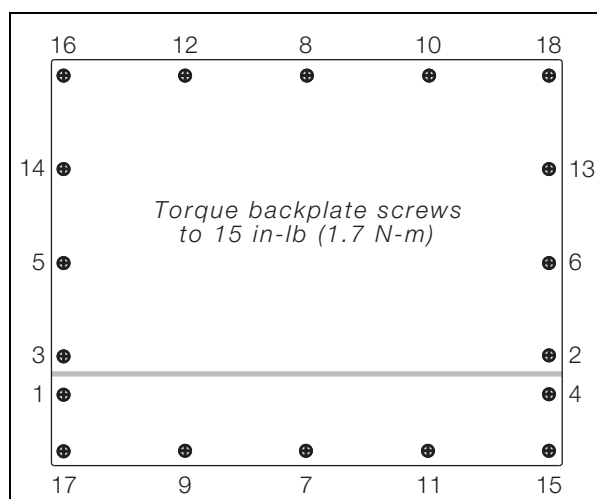

Figure 2. 920i Enclosure Backplate
8. Position the backplate over the enclosure and reinstall the backplate screws. Use the torque pattern shown in Figure 2 to prevent distorting the backplate gasket. Torque screws to 15 in-lb (1.7 N-m).